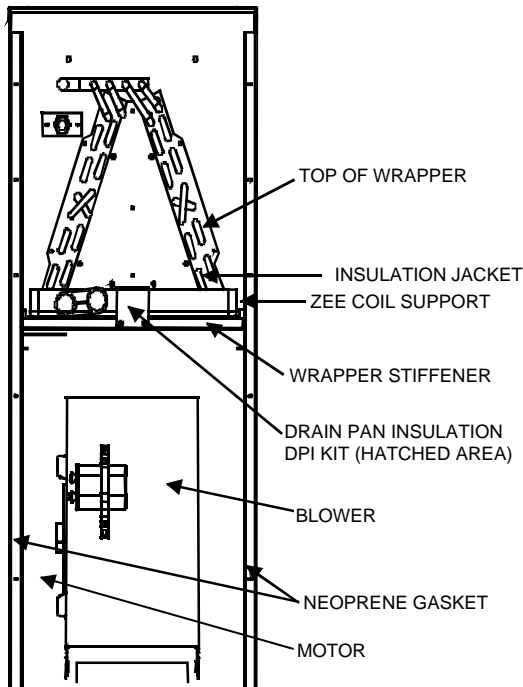

Figure 7
To complete the conversion, slide the evaporator coil into **the chassis and attach the three (3) access panels (Figure 7)**.